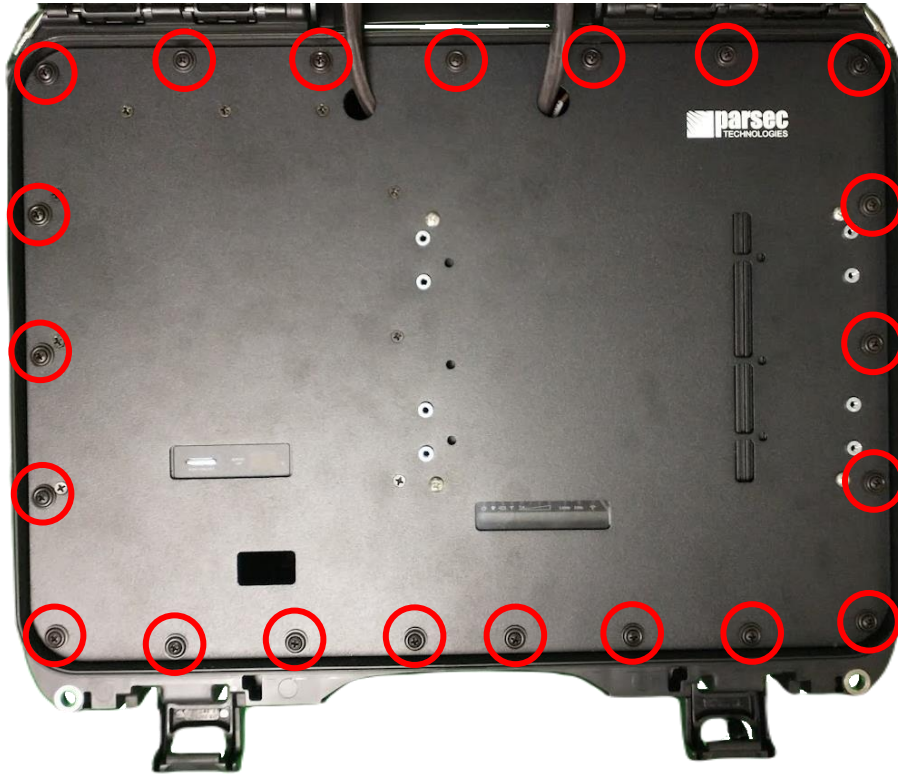

Figure 20: Fasten the cover plate to the case using PTA0351 screws.
- B. Fasten the cover plate to the case using the twenty-one PTA0351 black oval head screws with washers provided in the kit, as shown in Figure 20.